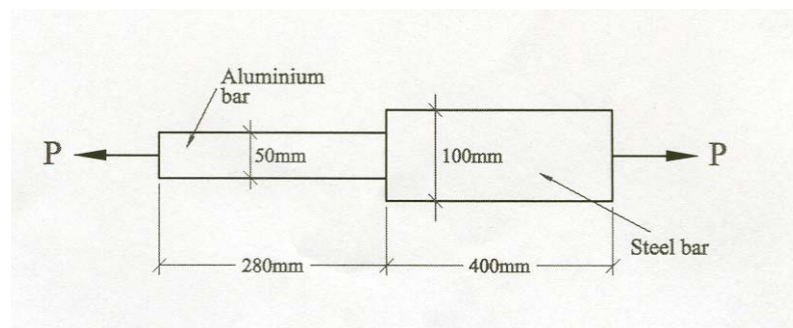

Figure 8/Gambarajah 8
- (ii) Two circular shaped bars are joined and used as a tension member, determine the magnitude of force P which will lengthen the two bars by 0.25 mm ($E_{\text{steel}} = 200 \times 10^6 \text{ KN/m}^2$, $E_{\text{aluminum}} = 70 \times 10^6 \text{ KN/m}^2$. (see **Figure 8**)